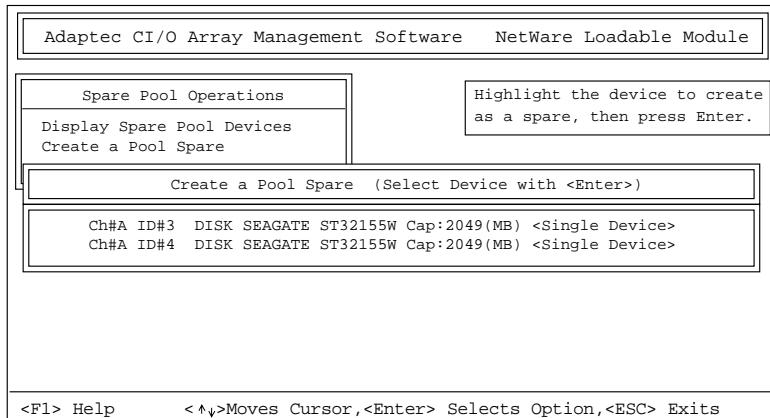

Figure 3-7. Create a Pool Spare Window
- 2 Select **Create a Pool Spare** from the Spare Pool Operations menu. A screen similar to Figure 3-7 appears.